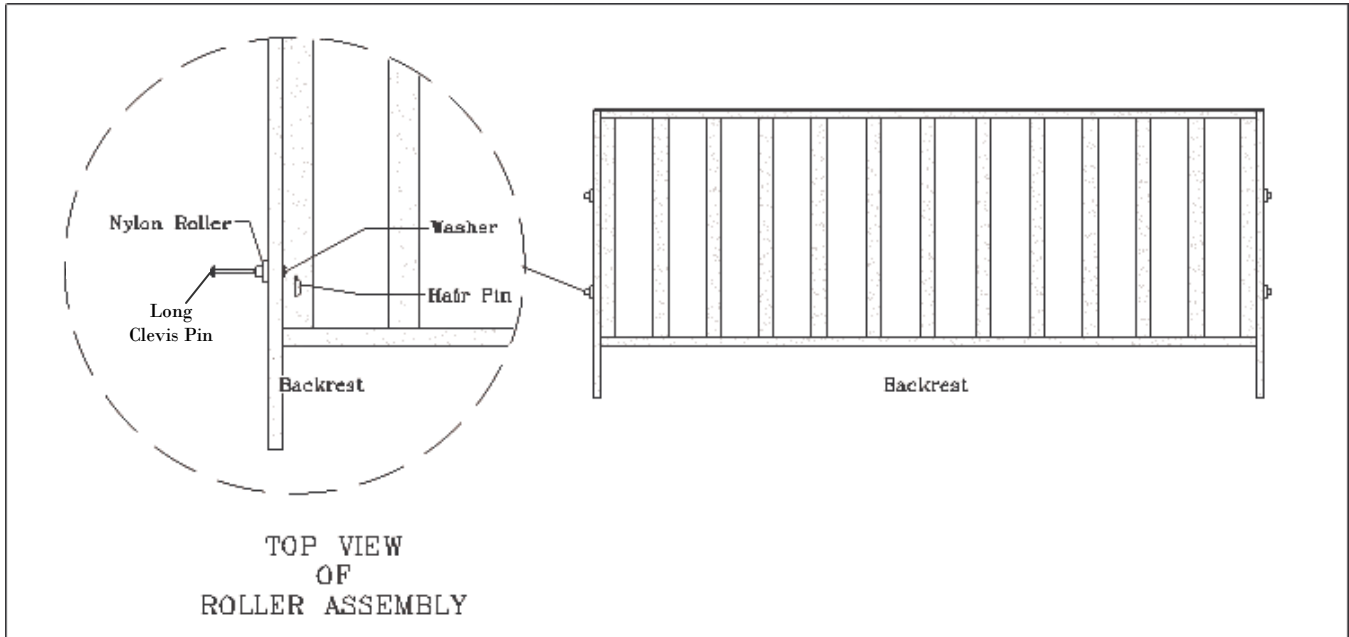

Figure 3
- 4) Locate backrest. Place long clevis pin through narrow end of a nylon roller and then through one of the two remaining holes in the side of backrest. Place a flat washer on the end of the long clevis pin. Insert hair pin through long clevis pin hole. Repeat this step for remaining rollers (Figure 3).